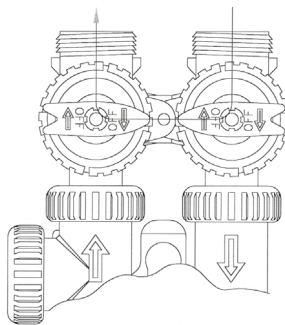

Figure 10: Bypass Mode
3. Confirm that the bypass valve is in the bypass position (see figures 10 and 11 above).